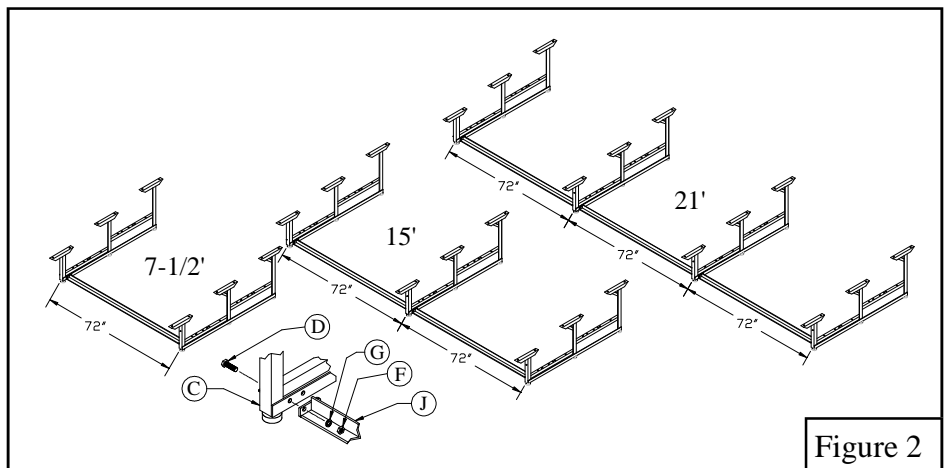

Figure 2
2. Position *Frame Assemblies* (C) approximately 72" apart on a level flat surface. Install *Front Brace* (J) using *3/8" X 1 1/4" Hex Bolts* (D), *3/8" Lock Washers* (G) and *3/8" Hex Nuts* (F). See Figure 2.